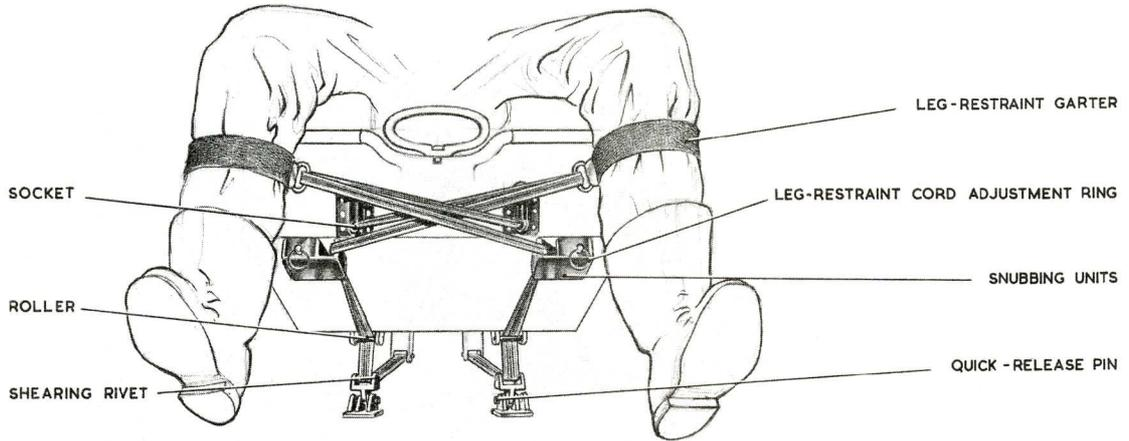

Fig. 6. Arrangement of leg restraint cords
17. The procedure for strapping-in is as follows, refer to fig. 6 to 9 for detail as necessary:—